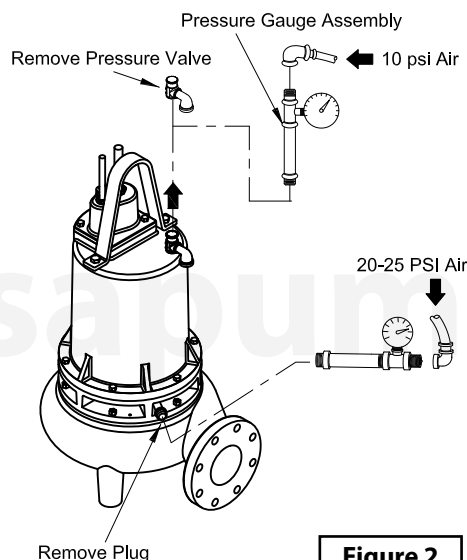

Figure 2
Motor Housing - Oil should be at normal level. Remove pressure valve (11) from motor housing (3). Apply pipe sealant to pressure gauge assembly and tighten into hole (See Figure 2). Pressurize motor housing to 10 PSI.